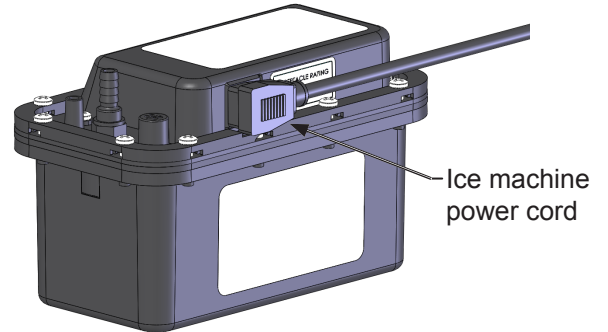

Figure 44
5. Disconnect the ice machine power cord from the drain pump (See Figure 44).